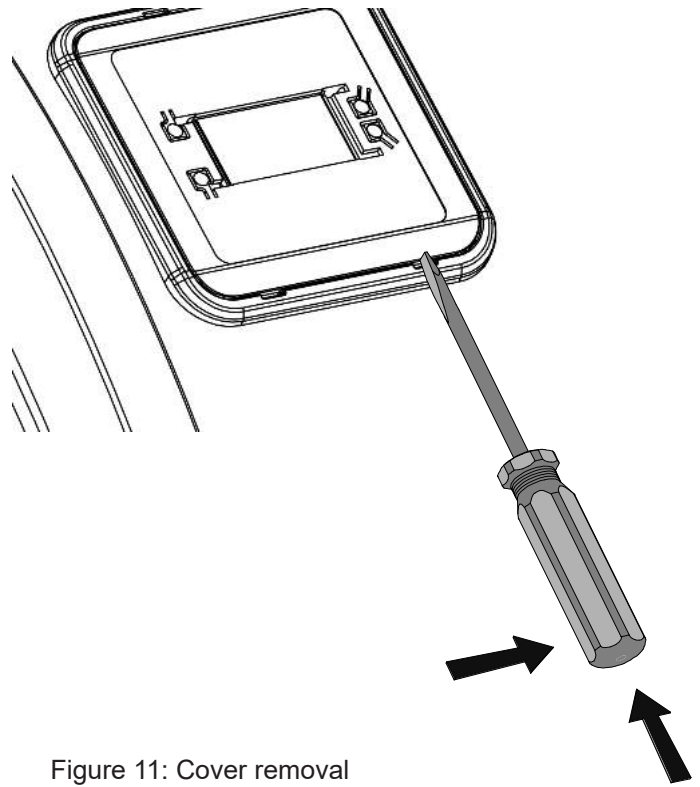

Figure 11: Cover removal
- ▶ To remove the LCD display, using a flat bladed screwdriver into the slots around the cover and gently levering outwards until each of the four catches release (see Figure 11, page 26).